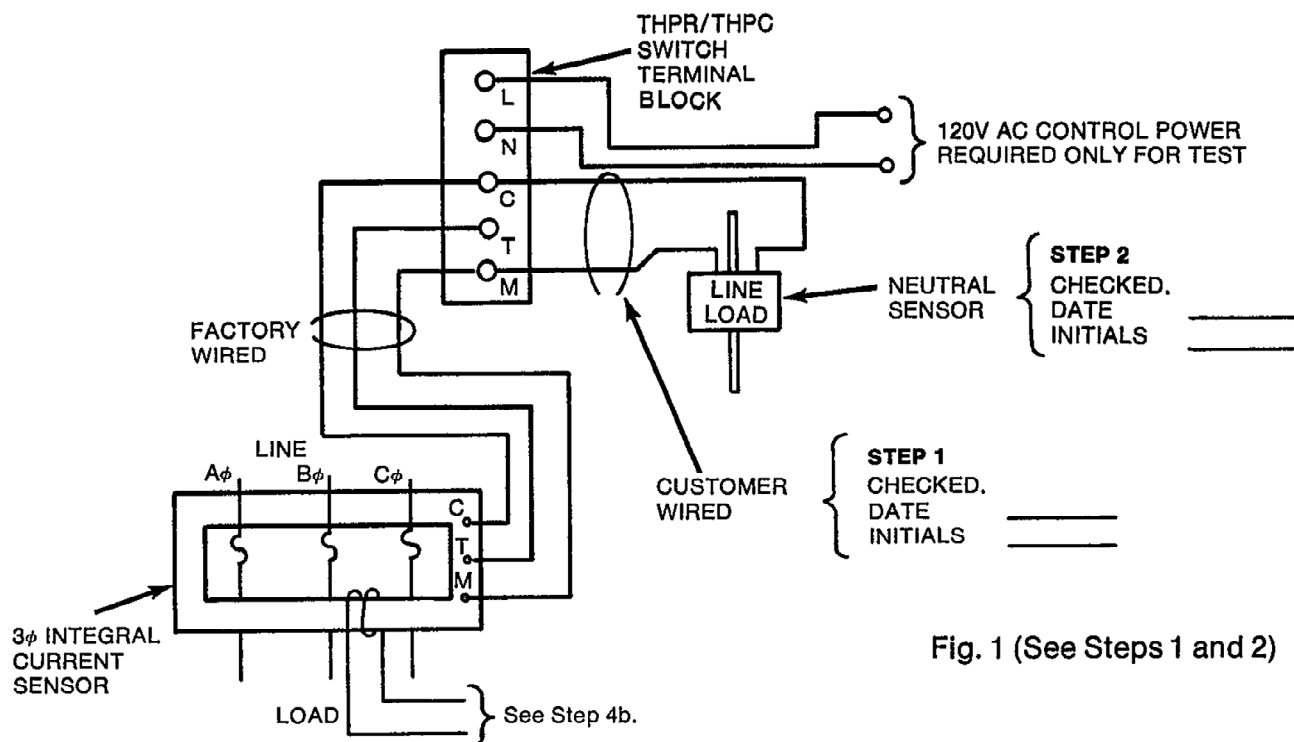

Fig. 1 (See Steps 1 and 2)
1. Check the interconnections from the neutral current transformer to terminal block on the switch (3-phase, 4-wire systems or 1-phase, 3-wire). See Figure 1.
2. Verify proper line side orientation of neutral sensor. See Figure 1.
1. Connect 120 V, 60HZ external control power of at least 200 VA to terminals L and N — see Figure 1.
5. Record the results of the tests on the Performance Test Record on the reverse side. Initial for verification of steps 1, 2 and 3 in spaces provided in Figure 1 and 2. When performance test is completed, give form to those in charge of the building's electrical installation to be available to the authority having jurisdiction.